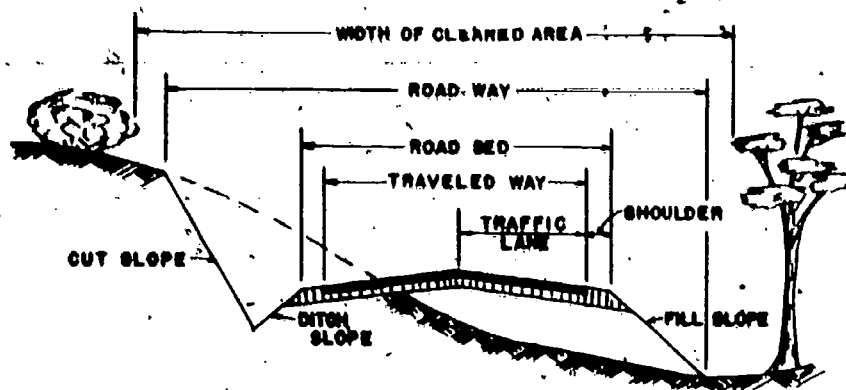

Fig 3-18. Road nomenclature.
- (3) **Subgrade.** The subgrade is the foundation of a road and can be either the original ground or fill material placed on top of the original ground. The function of the subgrade is to support all loads that the road is required to carry. The load-bearing capacity of the soil can best be determined by appropriate tests made in the field. Certain types of soils in place already have the capability of carrying the loads applied. However, in fill sections, and in cut sections where the natural ground is inadequate for this purpose, suitable material must be emplaced and compacted to provide this strength. The depth of the subgrade depends on the type of soil present or available to be emplaced. To maintain the strength of the subgrade, adequate drainage must be provided. Final grade elevations given on a profile most commonly refer to the subgrade elevations.
- (4) **Base course.** The base course of a road consists of select materials placed in a layer over the subgrade for the purpose of distributing the load to the subgrade. Within practical limits, the thicker the base course the greater the amount of distribution. However, the thickness depends on the properties of the subgrade. When properly prepared and placed, traffic can move satisfactorily over the base course of the road. In the summer, however, and particularly in hot arid areas, the loss of moisture in the base course may result in an unpleasant dust condition. In wet weather, the porous base course absorbs much water, and deterioration may result without an adequate surface above it. Also, the pounding of heavy loads will ultimately cause disintegration of the base course, and its prolonged use as a surface is not usually recommended.
- (5) **Surface course.** The surface course provides a smooth, hard surface on which the traffic moves. It can be constructed of several types of material--asphalt or tar products, concrete, gravel, or compacted earth with certain types of binders. The surface course should be all-weather and should provide for the rapid removal of any surface water. The use of treated surface roads is economically limited to those which have a relatively long life expectancy. In general, a divisional road with a life expectancy of 6 months will require only an earth or gravel surface.
- b. **Other nomenclature and specifications.** Figure 3-18 shows a typical road section with the parts named according to standard military terminology.